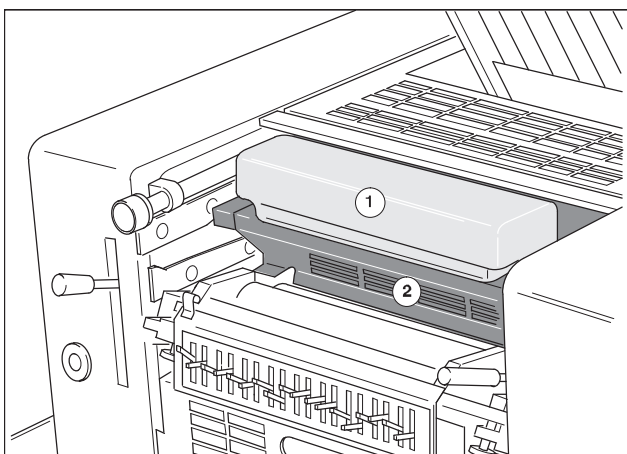

Fig. 6 Dampening solution container, PU 1
1. Remove the dampening solution container (Fig. 6/1).
2. Open the guard above the dampening system (Fig. 6/2).